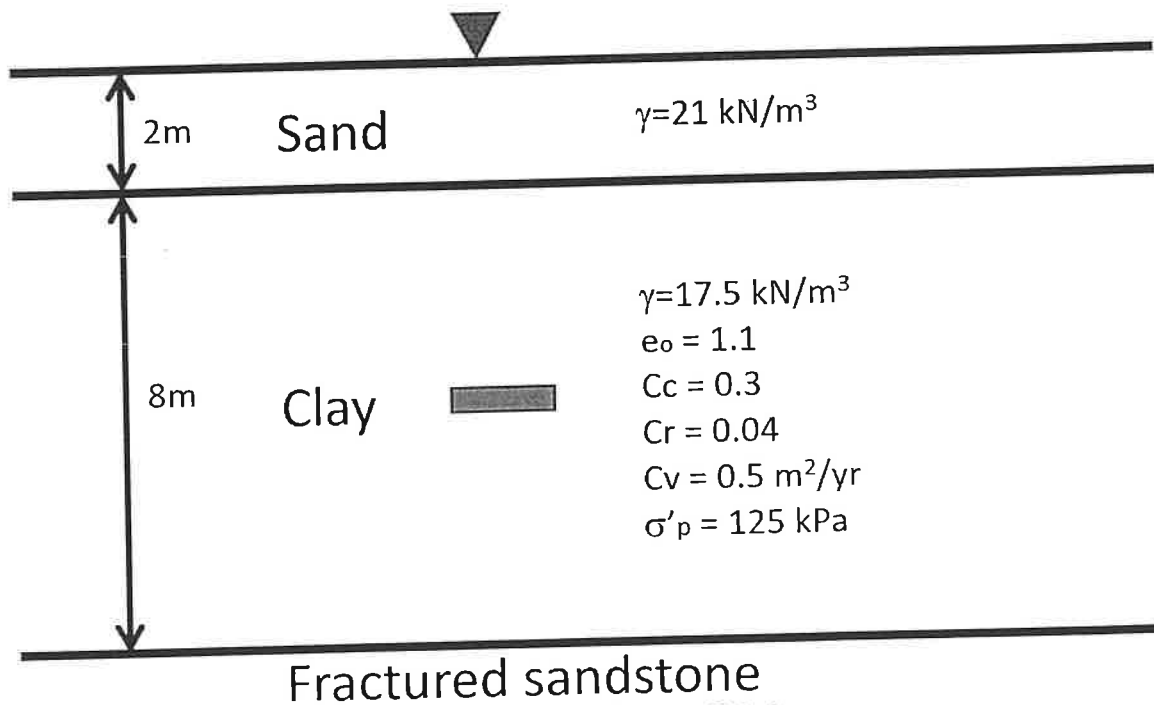

Figure Q4-1
1. A new building is to be constructed on the soil profile shown in **Figure Q4-1**, which is 2m of saturated sand above 8m of clay on fractured sandstone. A hydrostatic pore pressure regime was found with the water table at the surface. The new construction will provide an additional 100 kPa of stress at mid-height of the clay layer. You are asked to: